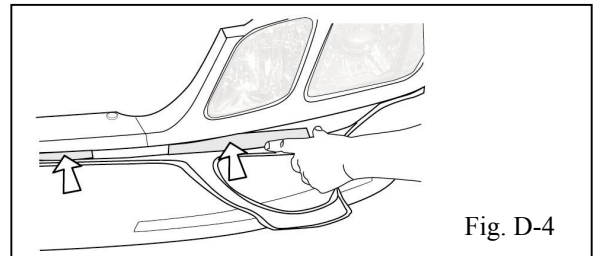

Fig. D-4
- ➔ 3. Place two (2) plastic flaps above the bumper fascia and below the headlights. Repeat on other side of the vehicle (Fig. D-4.)